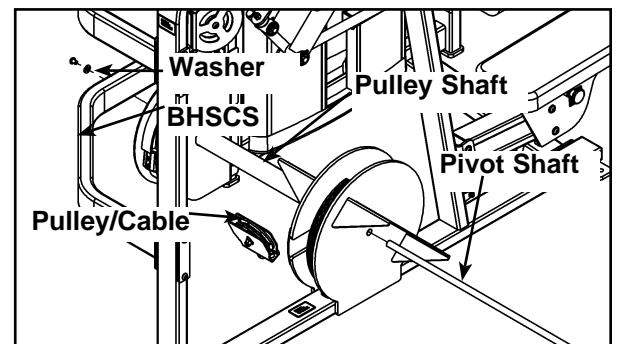

Figure 5
- K. Remove one of the two BHSCS securing the pivot shaft. See Figure 5.
- L. Carefully remove pivot shaft. See Figure 5. **NOTE:** Be extremely careful when removing shaft so you don't ruin the threads on the shaft.